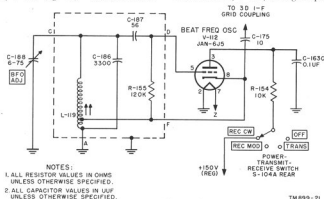

Figure 21. Beat-frequency oscillator stage, simplified schematic diagram.
46. Beat-frequency Oscillator Stage V-112 (fig. 21)